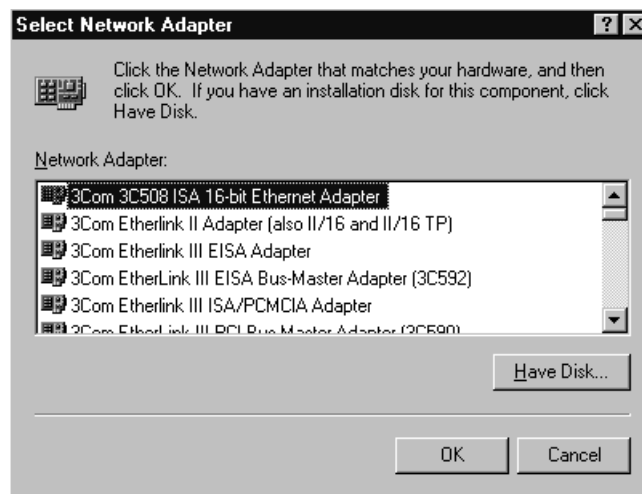

Figure 3-7. Add Network Adapter
3. From the **Select Network Adapter** screen (Figure 3-7), click the **Have Disk...** button.